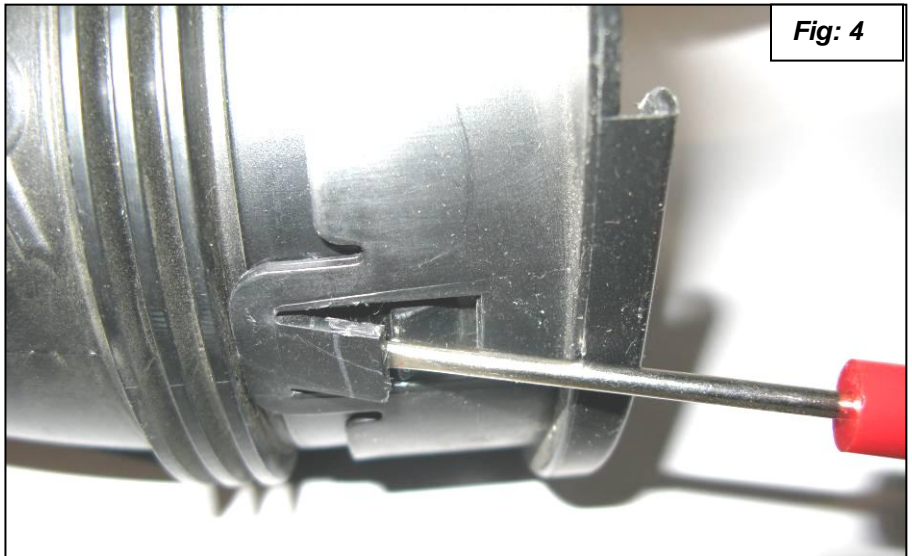

Fig: 4
- Remove the air duct mounting flanges from the air ducts as shown by placing a small screw driver under each tab and sliding mount off of duct. See figures 4 and 5.